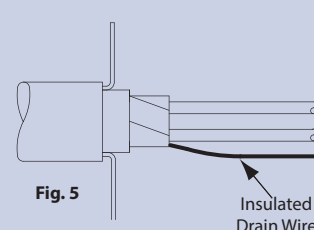

Fig. 5
- 3.4 Spray or paint the drain wires with insulating varnish or paint, then leave to dry (See Fig. 5)